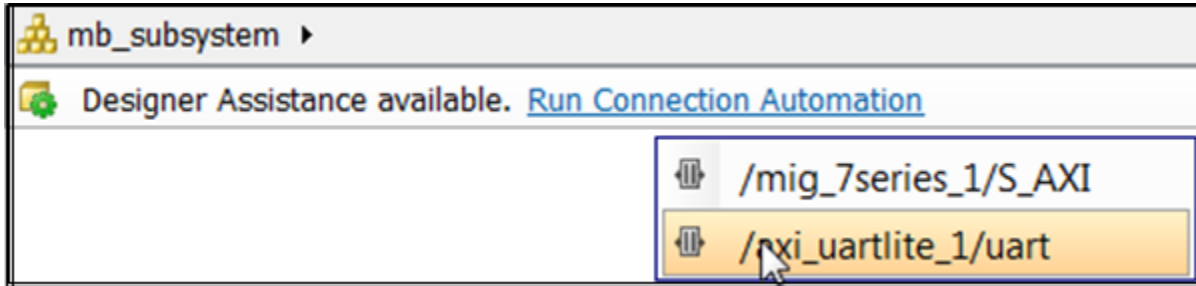

Figure 111: axi_uartlite_1
- Click **Run Connection Automation** and select `/axi_uartlite_1/uart`. (Figure 111).